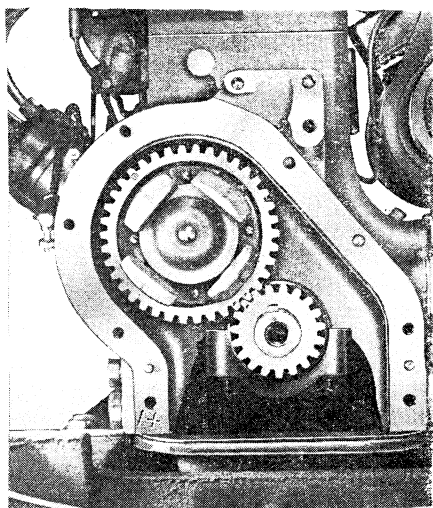

Fig. MH6—Continental N62 timing gears and valve timing marks. Oversize marking on cam gear corresponds with 1+ mark on gear case gasket surface.
19. **TIMING GEARS.** If the gears are to be removed, camshaft removed or crankshaft end play adjusted, the radiator must be drained and removed in addition to the work performed in the preceding paragraph. As will be noted in Fig. MH6, the timing gears are meshed so that the punch marked tooth of crankshaft gear is between the two punch marked teeth of camshaft gear.
Note markings (Fig. MH6) on gear cover gasket surface of crankcase. This indicates correct oversize or undersize gear to be used in this block. In this instance, it indicates that camshaft gear one size over standard should be used. The gear will be similarly marked on its forward face.